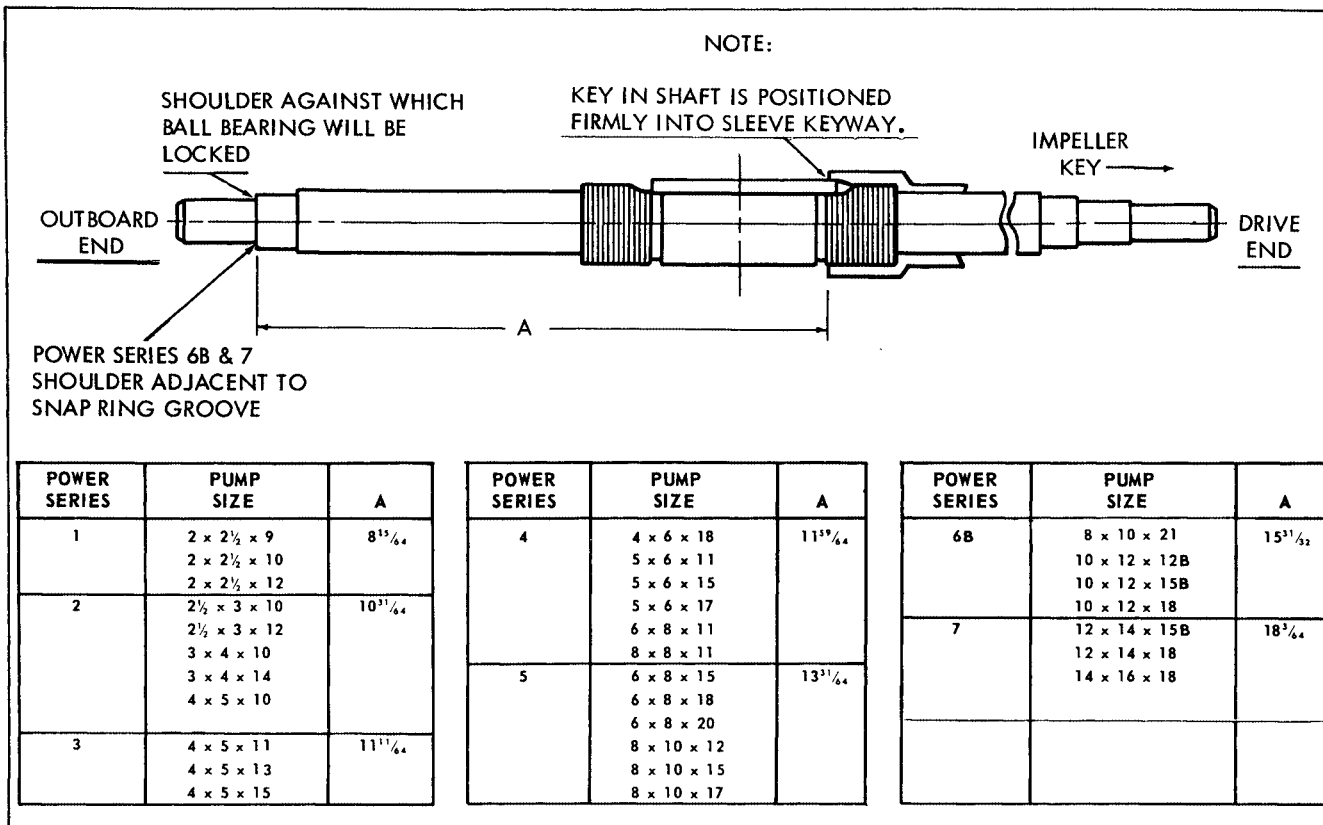
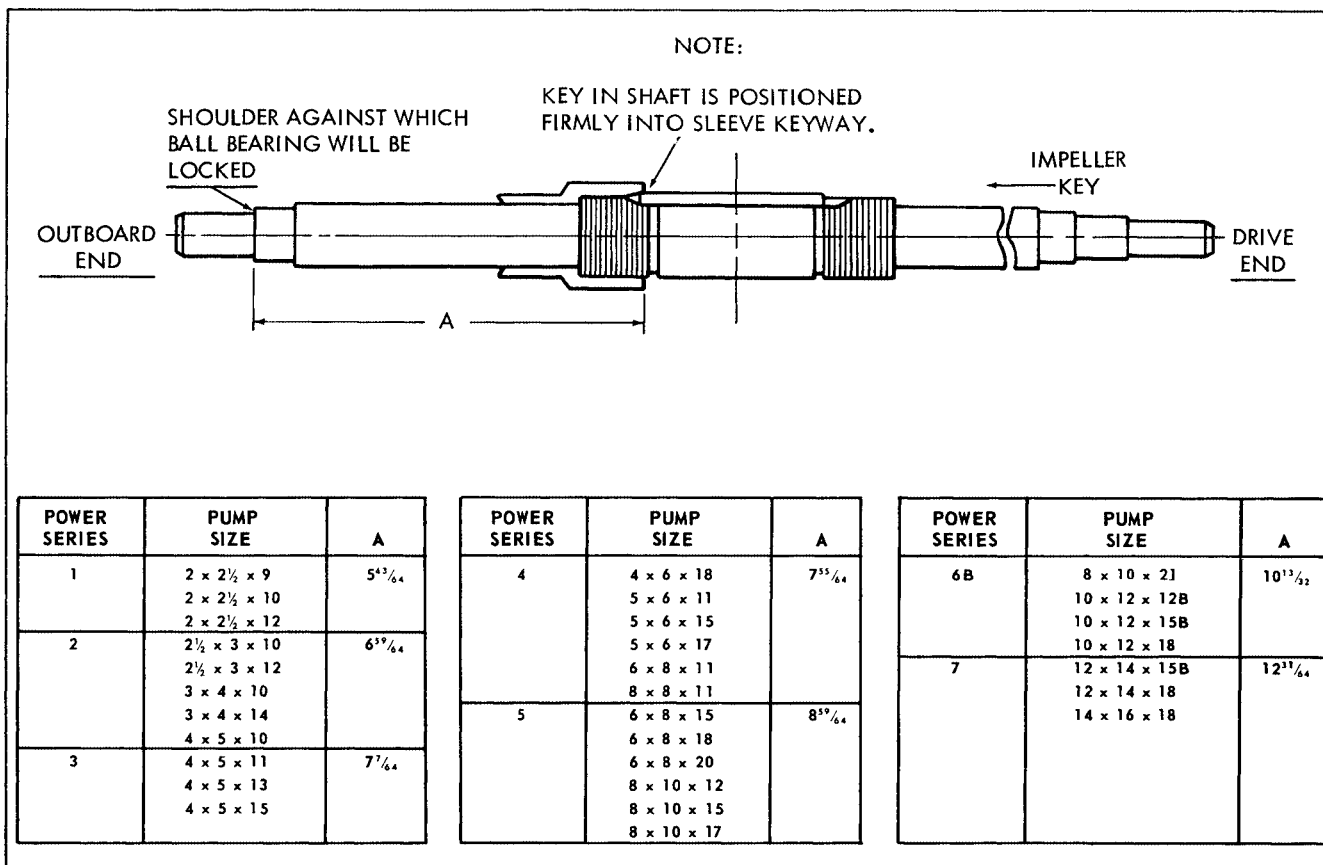

Figure 2. Locating Shaft Sleeve on Shaft, Right Hand Rotation
Figure 3. Locating Shaft Sleeve on Shaft, Left Hand Rotation
1. For Model 412, 413 & 483 pumps, reassemble base (77) to casing half (69) with capscrews (76). Set these parts back on their foundation and connect them to the suction and discharge piping, then secure the base to its foundation by tightening nuts on foundation bolts.
2. Position locating pins (67) in lower casing (69), adding swing bolt pins (68), if used on your pump. Install wearing ring pins (66). Tap pins gently to seat them in place. If nameplate (71) was removed, install it with screws (70). Install o-ring (62) in shaft sleeve (64).
3. On a right hand unit thread inboard sleeve (64) onto shaft (65) distance A (refer to Figure 2). On a left hand unit thread outboard sleeve (57) onto the shaft a distance A (refer to Figure 3). When the sleeve is in position its keyway should align with keyway on shaft. Coat key and keyway with Loctite Sealant Grade 242. Insert key (63) into keyways of shaft and sleeve. Tap it firmly in place.
4. Coat inside diameter of impeller wearing rings (61) (optional) with Loctite sealant Grade 271 and press them over hubs of impeller (59). Do not attempt to hammer impeller wear rings into position, since they are a press fit. Use of an arbor press is preferred. However, placing a block of wood over the impeller wearing ring and pressing it in will work satisfactorily. For power frames 5, 6B and 7 only, two setscrews (78) will be installed by drilling into wearing rings and impeller. The opposite surface of the impeller should be protected from damage throughout the procedures by resting it against soft wood on the surface of work bench.